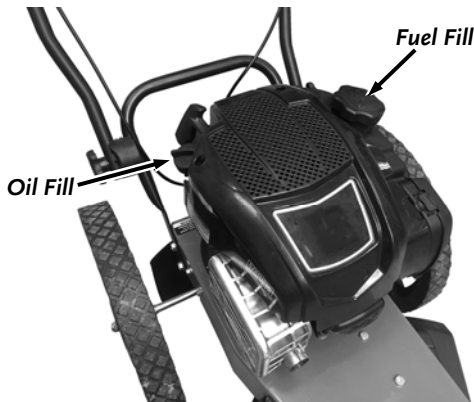

Figure 8
Note: The Fuel and Oil Fills on the 6.75 and 7.25 Electric Start models are on opposite sides from what is shown in figure 8.
- Place the machine on a level surface and initially add 1/2 of the SAE 30 High Detergent oil into the Oil Fill (**Figure 8**) and wait one minute for the oil to settle